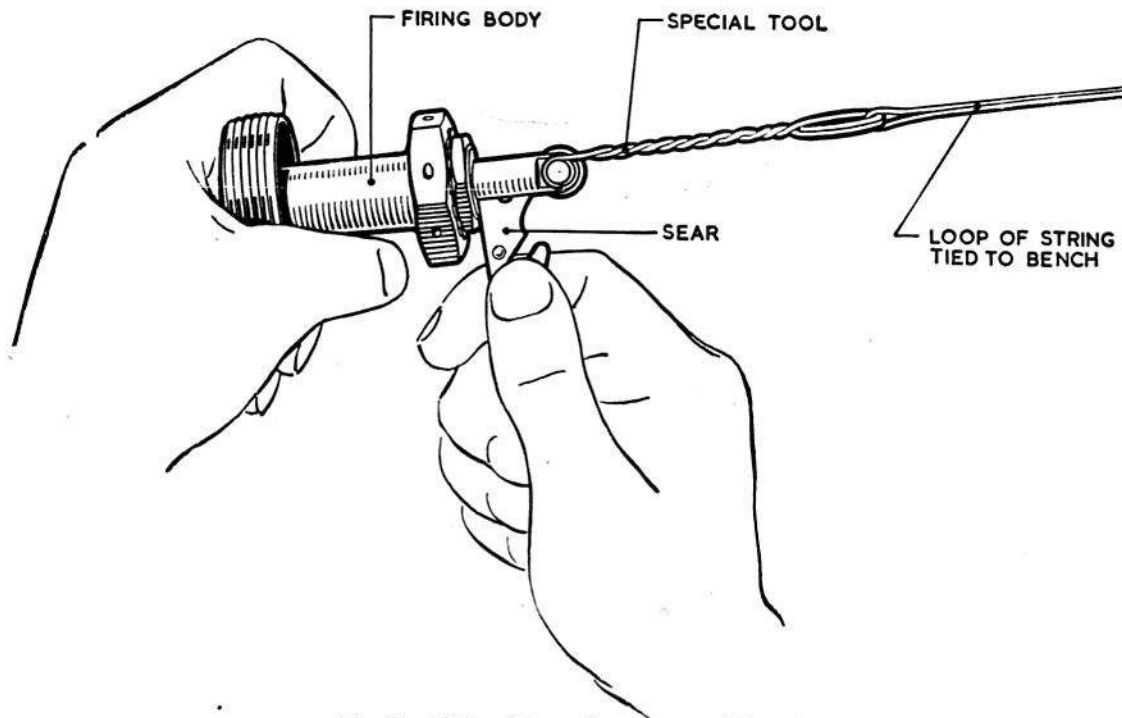
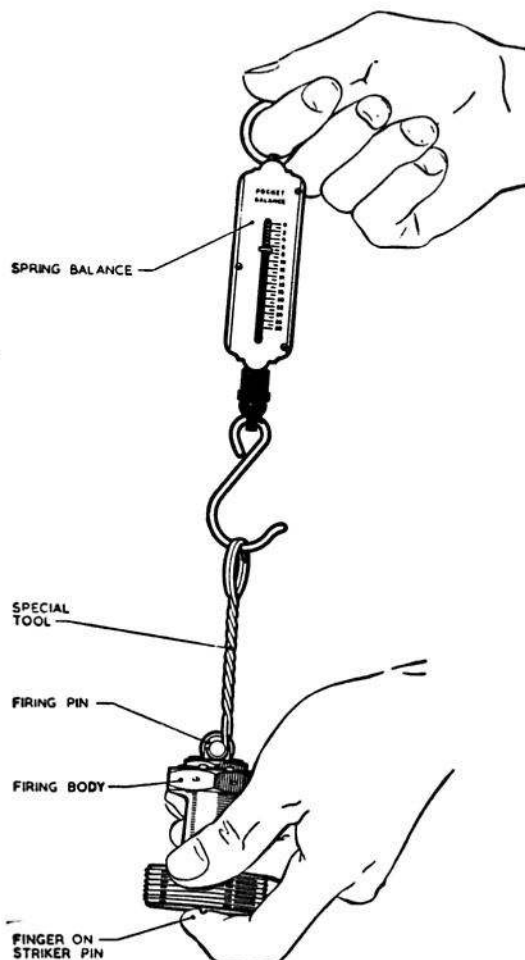

Fig. 8. Lifting firing pin with special tool
Fig. 9. Testing firing spring
- (1) With the firing pin in the fired position, place the protrusion gauge in position in the firing unit. If the plunger is flush with, or above, the level of the body, the protrusion is correct.
- (2) Remove the firing pin from the firing body. Using kerosine, wash any traces of grease from the firing pin and the interior of the firing body, then lightly lubricate with oil OM-13 (Stores Ref. ^{NS Part} E 9/422). Assemble the firing pin in the firing body. (AL 96)
- (3) Lift the firing pin with the special tool (*fig. 8*) and check that the firing sear moves freely in the slot, and that the firing pin moves freely throughout its stroke. Remove the sear and check the initial compression of the firing spring by spring balance as shown in *fig. 9*. The firing pin should not start to move until 7 lb. is registered. The initial movement of the firing pin can be detected by holding the finger over the projecting end of the striker pin.